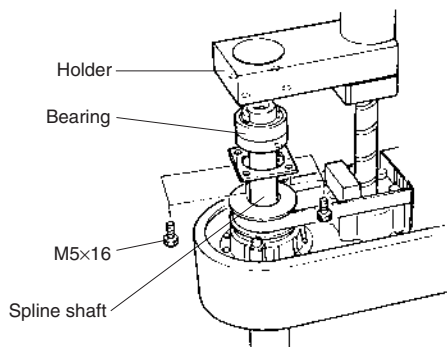

Fig. 5-46
(See Fig. 5-46.)
- 21) Insert the spline and bearing through the holder and secure them with the bolts you removed earlier (M5×16L, 4 pieces). (See Fig. 5-46.)